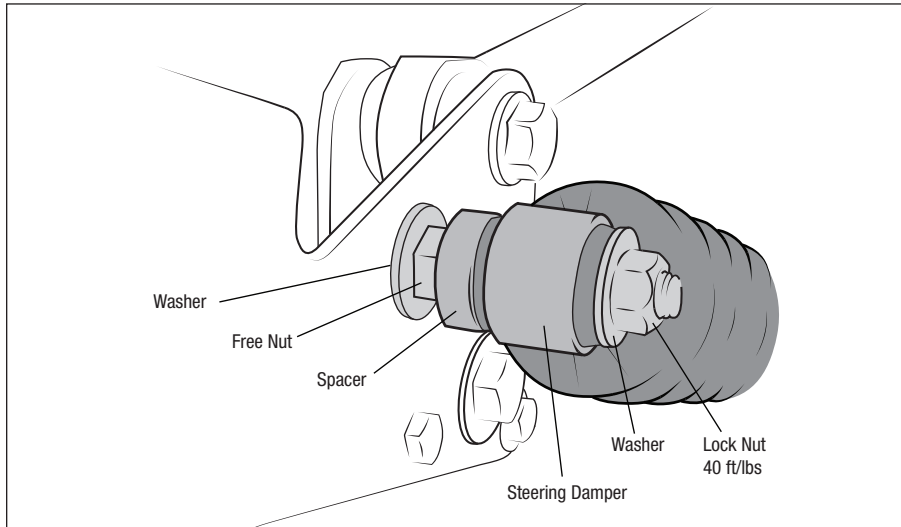

Figure 29
- B. Attach the damper to the new High Steer axle bracket orienting the hardware as shown (Fig. 29).